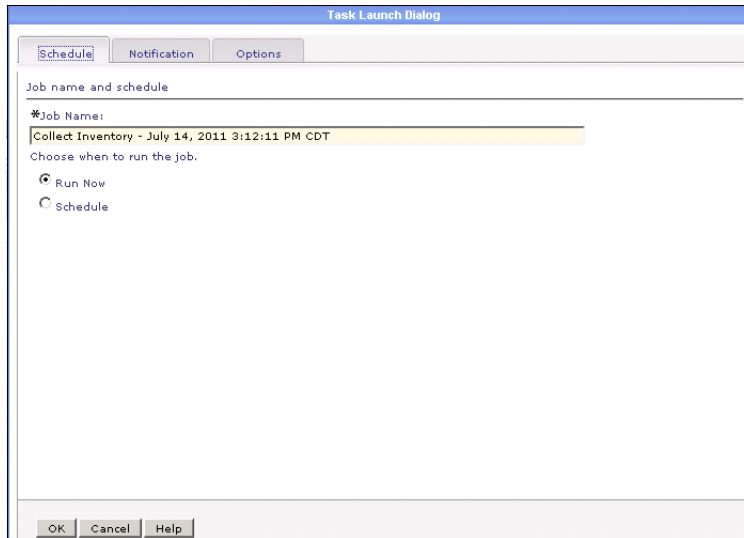

Figure 3-94 Task Launch Dialog
- A Task Launch Dialog box is opened to verify the name of the inventory, and time for running it, as shown in Figure 3-94 on page 147.